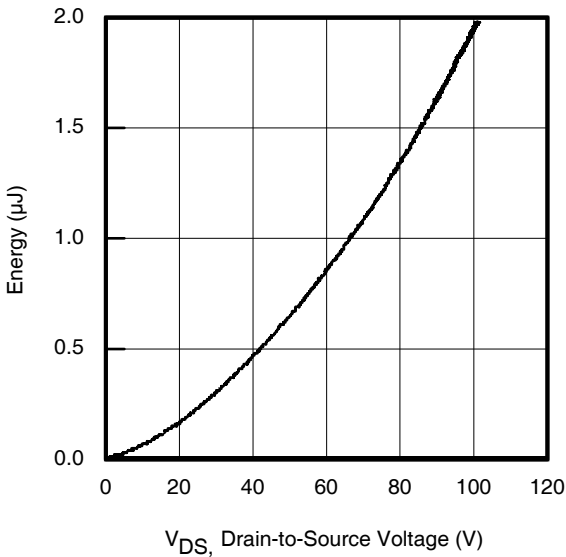

Fig 11. Typical C_{OSS} Stored Energy
| C _{oss} eff. (ER) | Effective Output Capacitance (Energy Related) | — | 420 | — | | V _{GS} = 0V, V _{DS} = 0V to 80V ^⑤ , See Fig. 11 |